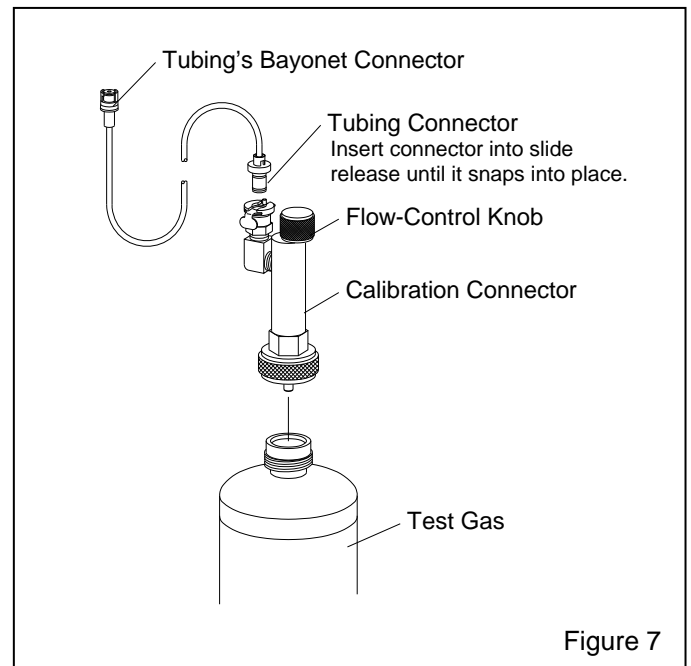

Figure 7
4.4 Prepare Calibration Connector – Figure 7